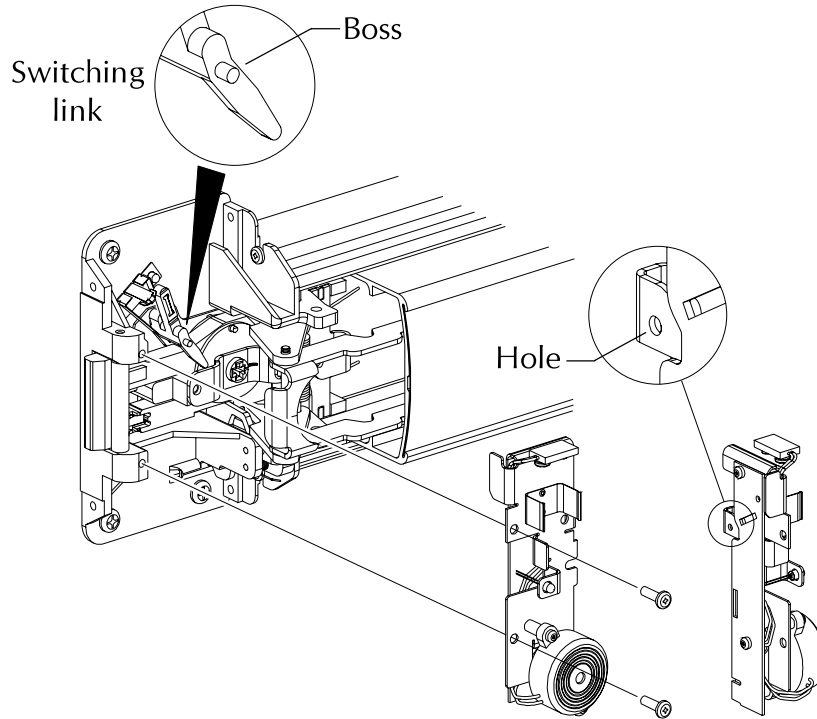

Figure 7
- 6 Install new PC board (Figure 7). Hole in bottom of PC board fits over boss on switching link.